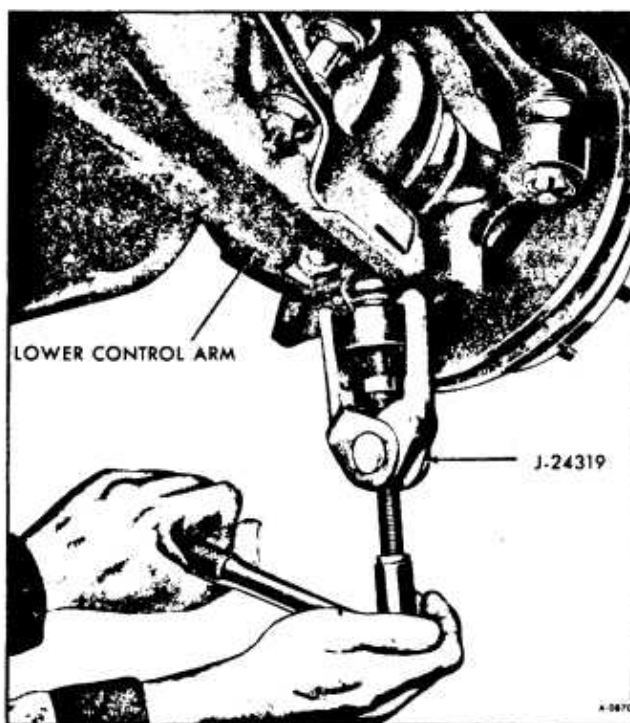

Figure 15—Removing Lower Ball Joint
8. Using Tool J-24319; remove lower ball joint from knuckle (figure 15).
9. Install Tool J-24319 and remove ball joint stud from knuckle. (figure 15)